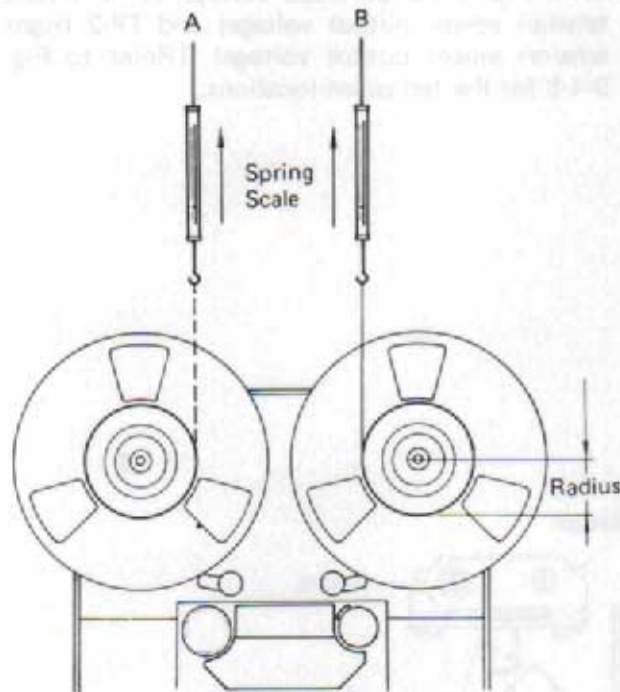

Fig. 9-4-2. Brake Torque Measurement
1. Mount an empty 10-1/2" reel onto either reel table and attach a spring scale to the reel with a string. See Fig. 9-4-2.